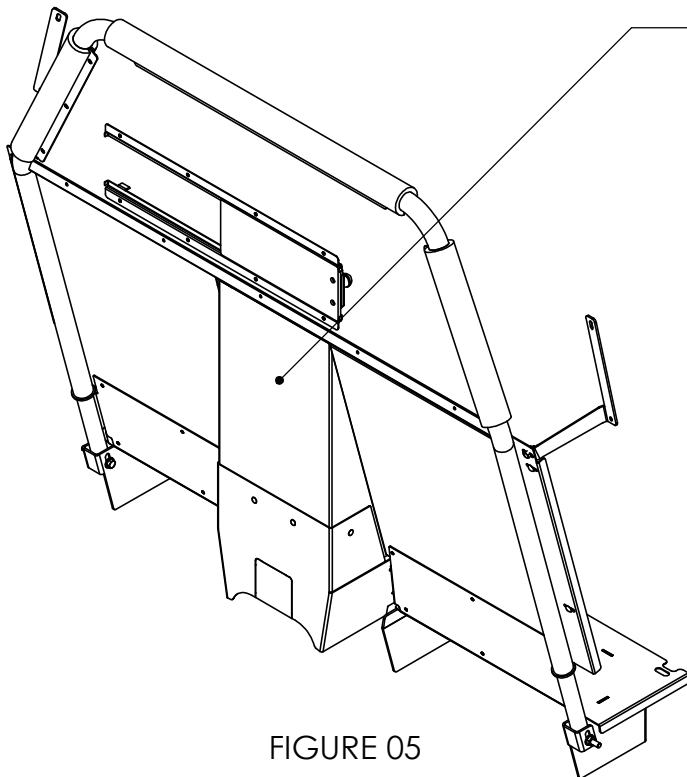

FIGURE 05
12. ATTACH CENTER ASSEMBLY TO THE MAIN WELDMENT USING #10-32 CARRIAGE BOLTS AND KEEPER NUTS (FIGURE 05).